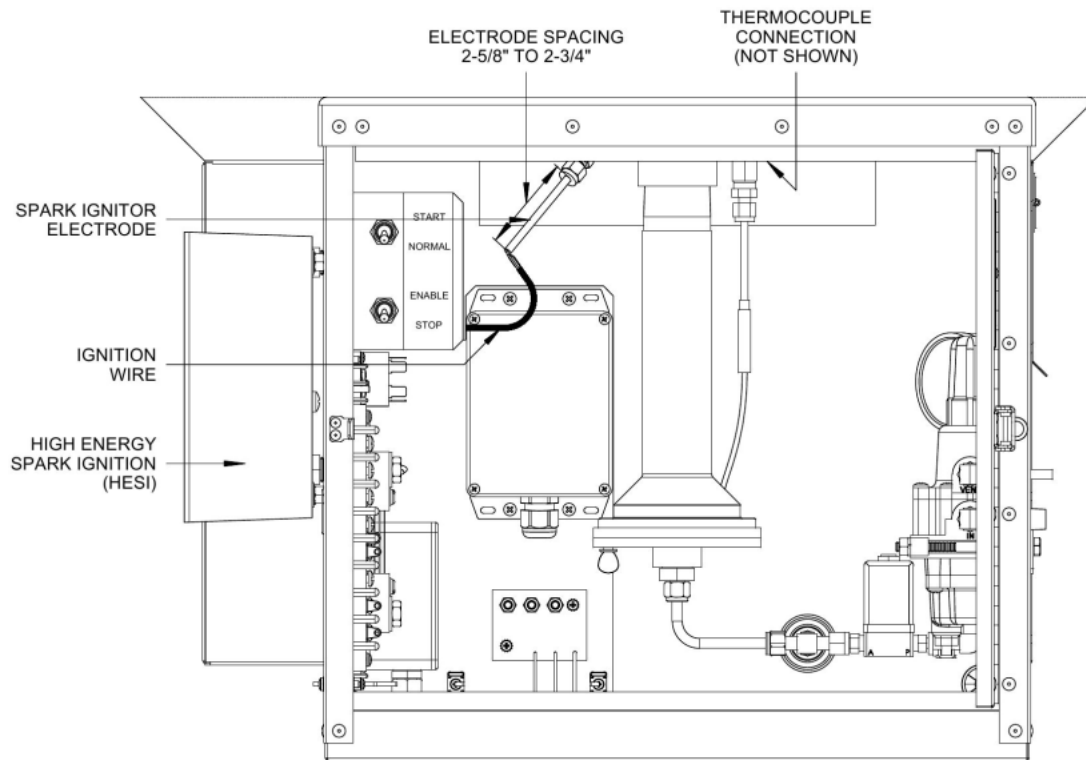

Figure 8 – Installation of Spark Igniter
1. Slide the Spark Igniter Electrode through the fitting on the bottom of the burner until it touches inside, then pull back by approximately 1/8 inch (3 mm). This should leave 2-5/8 to 2-3/4 inches (67 to 70 mm) extruding beyond the fitting (refer to Figure 8).